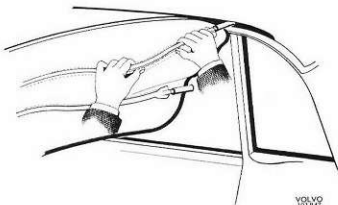

Fig. 8-51. Removing roof stretchers
4. Take down the stretchers beginning from the back by bending them down in the middle and releasing them from the edge of the roof as shown in Fig. 8-51. NOTE. Be careful when removing and fitting the stretchers. Careless handling can cause the ends to damage the roof plate.